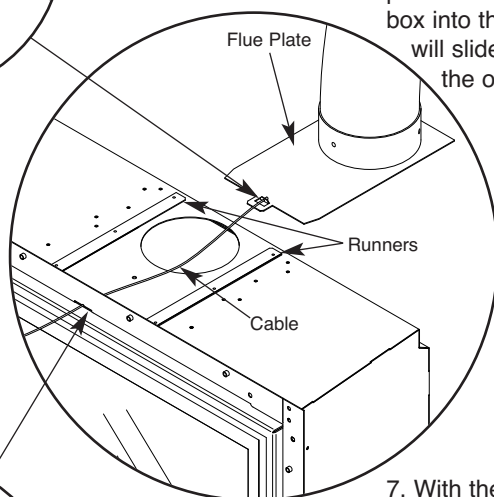

Fig. 36
2. Insert the end of the flue liner into the flue plate ensuring that the cable is at the front and secure with the three self tapping screws provided (Fig. 36).
3. Feed the cable provided through the hole in the flue plate as shown (Fig. 36).
5. Locate the front of the flue plate into the runners on top of the fire box (Fig. 36).
6. When the flue plate is located in the runners carefully pull the cable from the front of the fire and slide the fire box into the opening at the same time. The flue plate will slide through the runners and locate the flue over the opening in the fire box (Fig. 36).